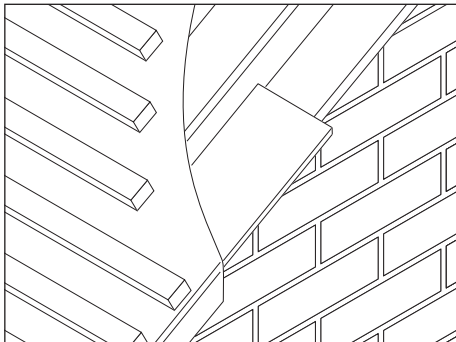

Fig. 7 – Fibre cement strip inserted under battens, 50mm overhang
- 3 Where cloak verge tiles are laid to maximum 50mm overhang, it is recommended that a strip of fibre cement board is fitted between tiling battens and wall or bargeboard to prevent ingress of birds (Fig. 7).